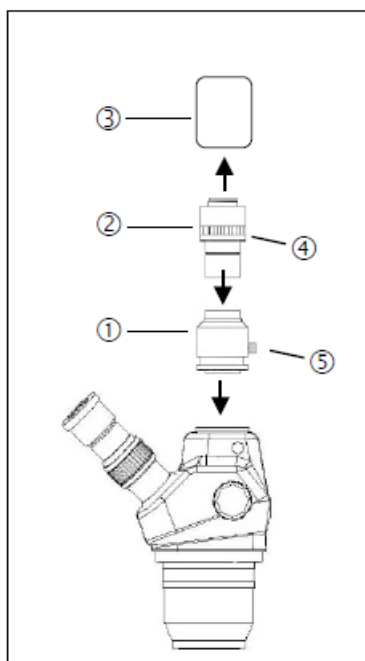

Fig. 7A
- **NOTE:** for cameras using the 0.50x c-mount, you may also need to adjust the focusing on the photo tube 1 using the focusing knob 5 (see Fig. 7A).
Using a 0.50x C-mount (CAT# 2005-5M & 78-2000) (Fig. 7A)